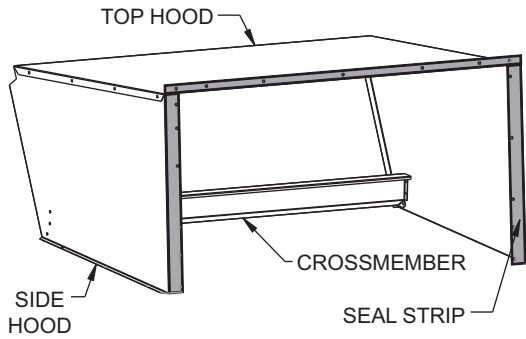

Fig. 27 — Adding Seal Strip to Hood Top and Side Hoods
5. Apply black seal strip (provided) to mounting flanges of hood sides being sure to cover mounting holes. See Fig. 27.
6. Apply black seal strip (provided) to back of hood top mounting flange. Seal strip of hood top mounting flange must press tightly against seal strip of hood side mounting flanges. See Fig. 27.